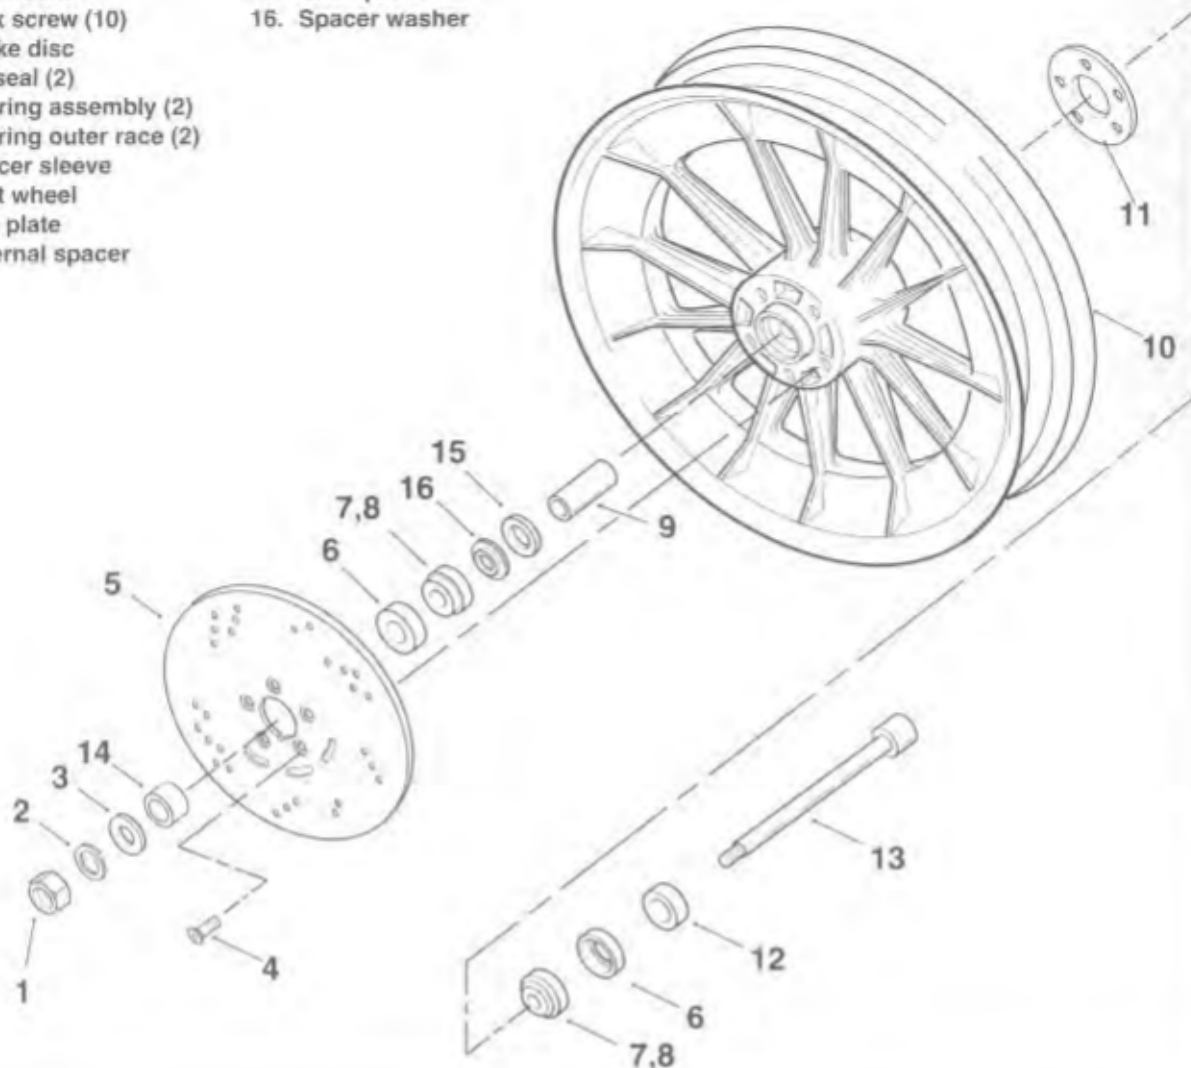
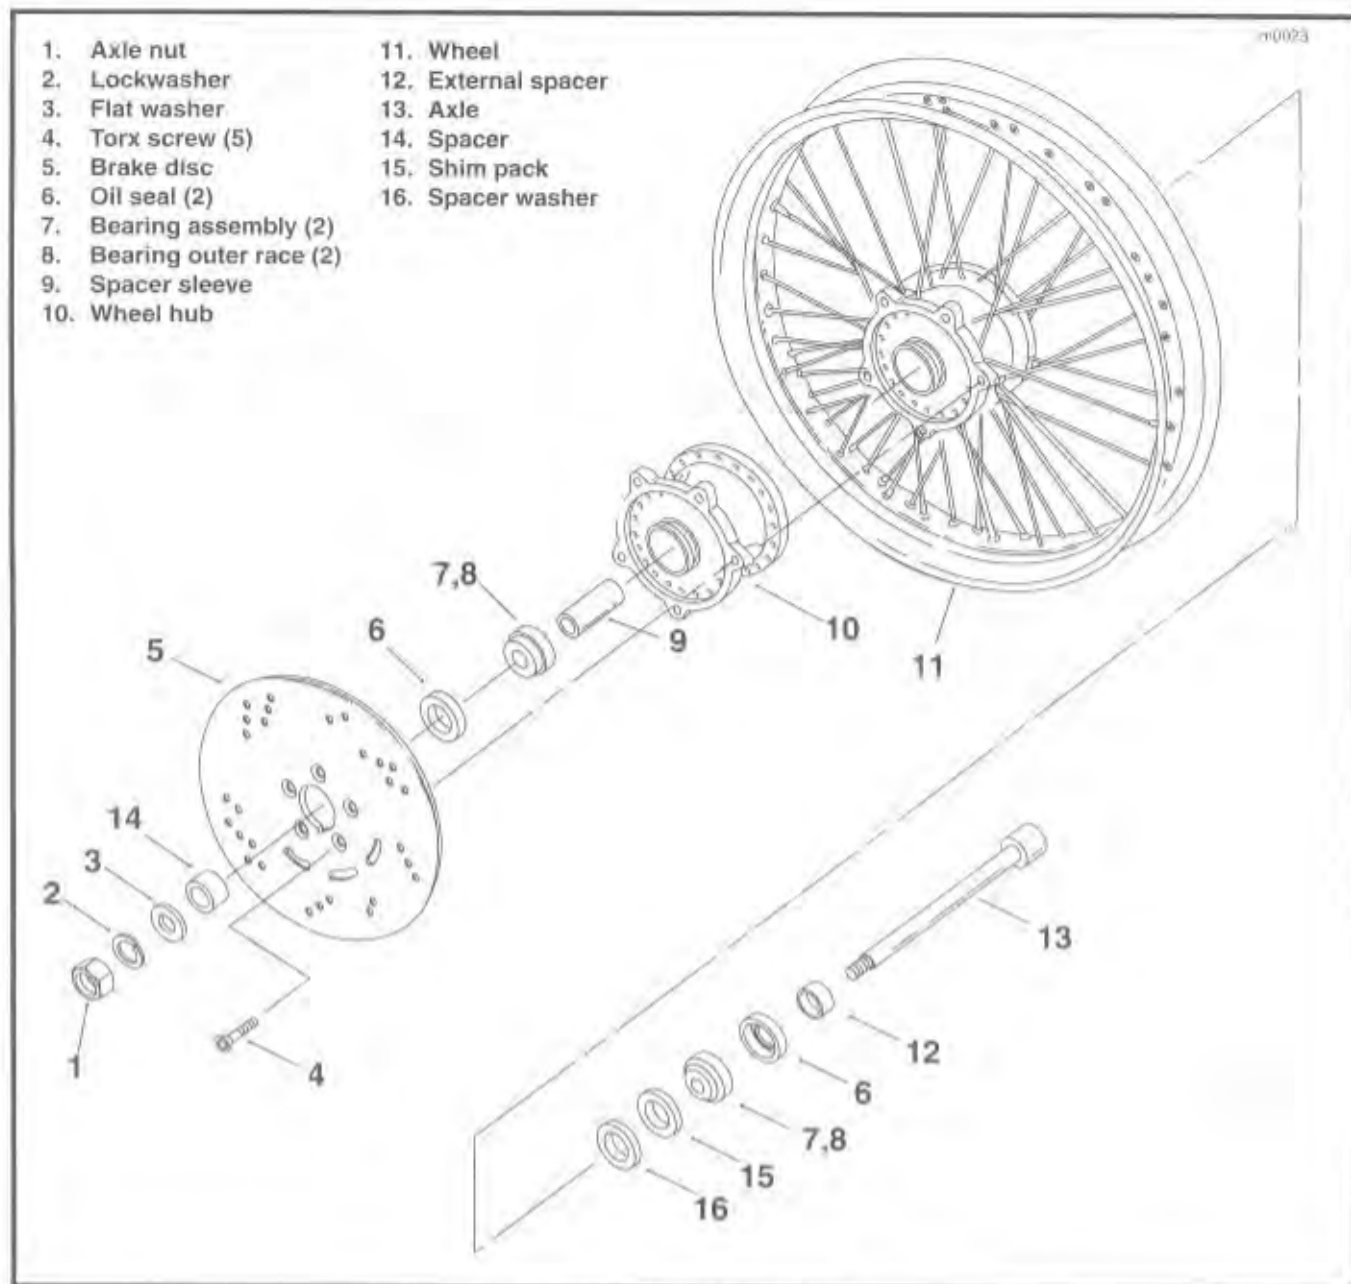

Figure 2-3. Cast Front Wheel
Figure 2-4. Laced Front Wheel
DISASSEMBLY (Figure 2-3, Figure 2-4)
ASSEMBLY (Figure 2-3, Figure 2-4)
2. Verify that the brake disc is thoroughly clean. Install disc on hub aligning notch in disc with 1/4-in. (6.35 mm) diameter hole in hub. Secure disc with **new** T-40 TORX screws (4). Tighten screws to 16-24 ft-lbs (22-33 Nm) torque.
3. On cast wheels (Fig. 2-4), install hub plate (11) to wheel hub using **new** T-40 TORX screws, if removed. Tighten screws to 16-24 ft-lbs (22-33 Nm) torque.
4. If removed, press outer races (8) into each side of hub using WHEEL BEARING RACE REMOVER/INSTALLER (Part No. HD-33071A). Apply a liberal amount of bearing grease to bearing outer races after installation.
5. Apply a liberal amount of bearing grease to bearing inner races (7). Pack grease into cavities around rollers. Use of HD-33067 Wheel Bearing Packer is recommended.